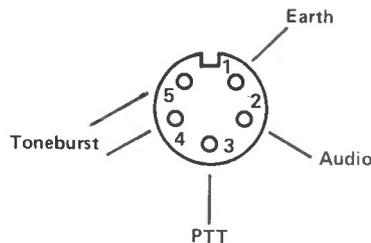

Figure 6: Pin connections for the mic/speaker plug.
**Mic/speaker plug and socket:** Pye used a 5-pin locking plug arrangement and the most common fault with this is that the earth connection breaks, resulting in annoying intermittents. Readers who fit the toneburst will certainly discover how 'fiddly' the whole system is. Experiments were carried out on how matters could be improved and eventually it was realised that a complete replacement was the best answer. Owners of the Yaesu FT708R will know what a nice plug/socket assembly it has, and one was tried in the PF70. The pin-out of the Pye socket is shown in Figure 6 and it doesn't matter in what order these are re-sited on the new socket, as